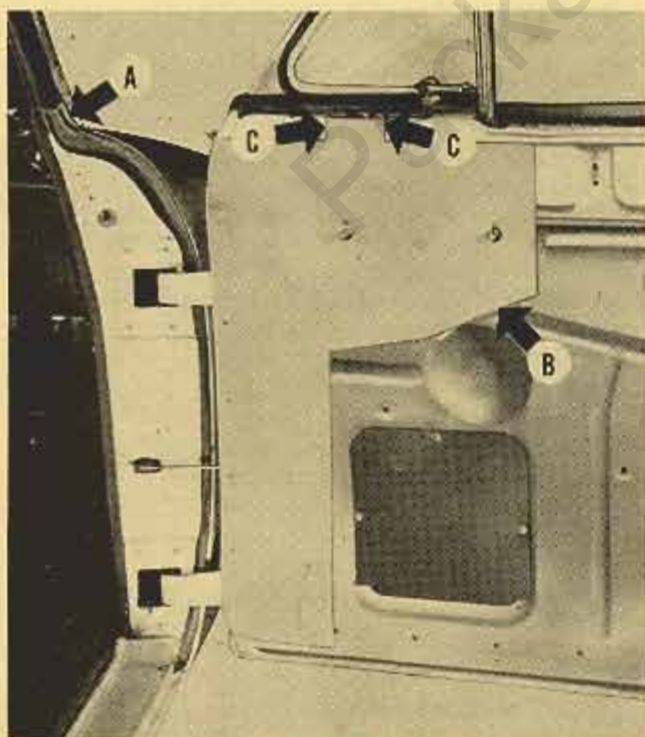

Fig. 1
1. If the upper end of the pillar post weatherstrip is out of place "A" Fig. 1, it should be pulled loose down about 4" and recemented. Apply 3M special weatherstrip cement to both the pillar and the back of the weatherstrip; when the cement becomes tacky, align the upper end of the weatherstrip so it will be in line with the lower end of the velvet covered weatherstrip and also the ends butted together. Press the weatherstrip firmly in place.
2. Remove the door trim panel. Pack dum-dum around the three forward belt moulding clips on the inner side of the door outer panel. Place the water-proof paper in its proper location Fig. 1, on the front section of the door and mark its outline. Remove the paper and coat this section of the door inner panel with 3M special weatherstrip cement; when the cement becomes tacky, install the waterproof paper "B" Fig. 1, and be sure to cement the corners of the small top section to the door panel "C" Fig. 1. The small top section must remain upright to deflect any water that might drain through the vent window weatherstrip drain holes.